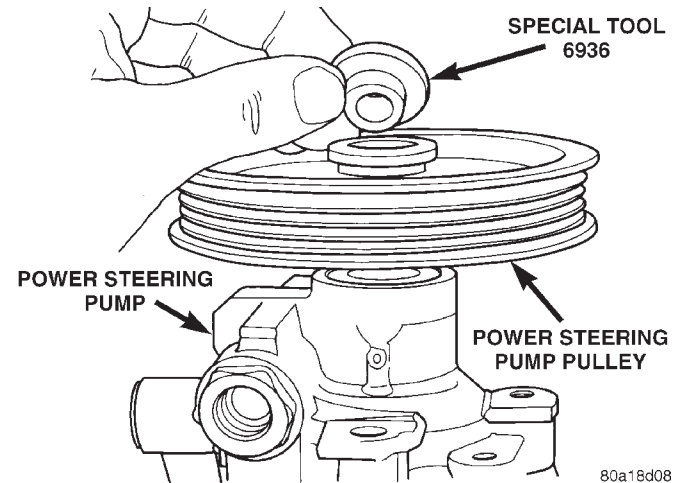

Fig. 33 Spacer Correctly Installed On Power Steering Pump Pulley
(3) Place Installation Spacer, Special Tool 6936 on top of the power steering pump pulley (Fig. 33).